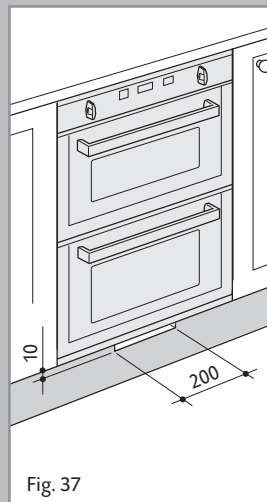

Fig. 37
**If installing a base panel leave a space as indicated in fig. 37 to allow air circulation.**